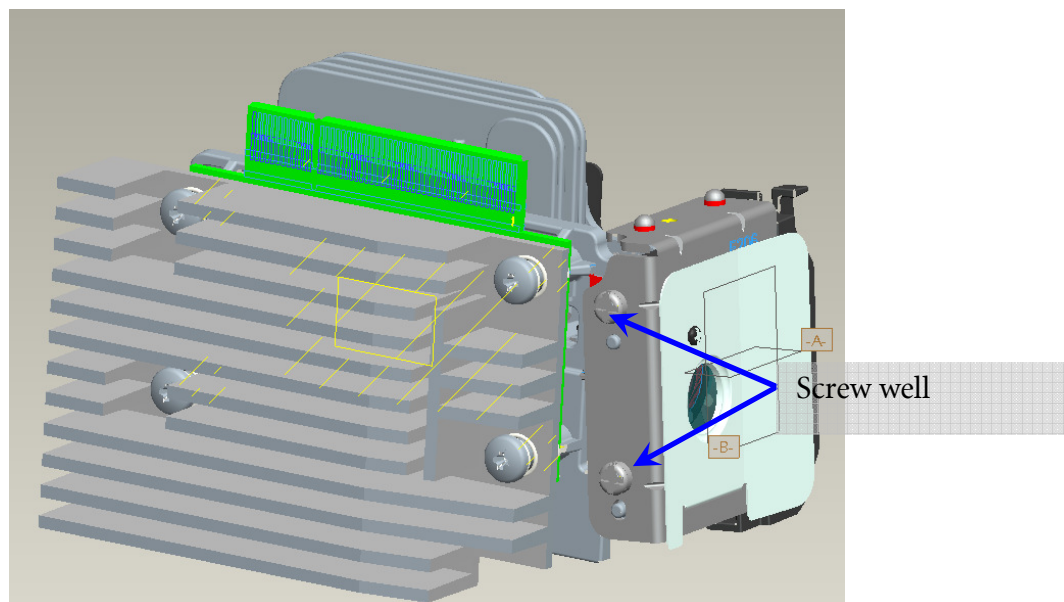

Fig. 5-6
5.6 Assemble “BKT Link Lamp & CW shield” on “DMD HSG” and then screws well (Fig. 5-6).